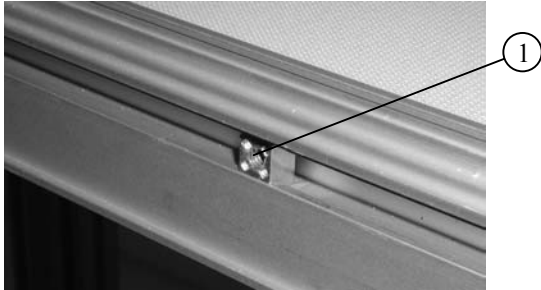

Figure 3
1. Install spring t-nuts (Figure 3, item 1) into conveyor t-slot .